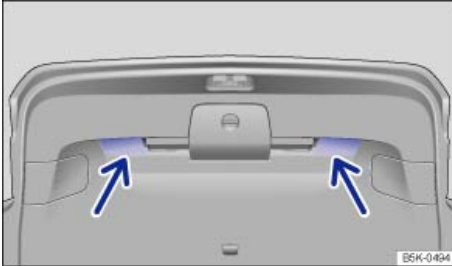

Fig. 31 Opened rear hatch: Recessed grips for closing.
- Grasp one of the recessed grips in the rear hatch trim ⇒ fig. 31 (arrows).